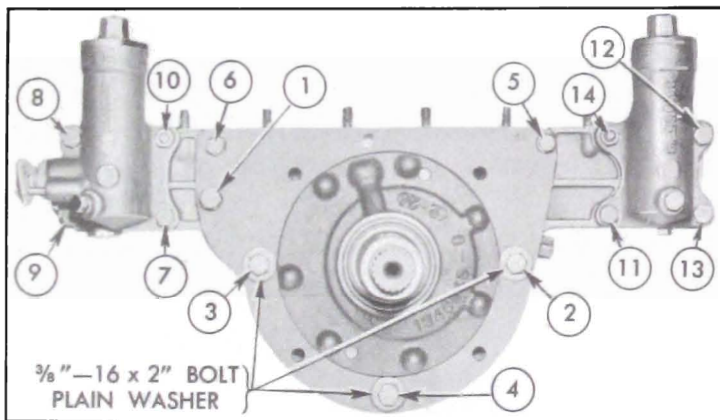

Figure 5-97—Reaction Shaft Flange and Accumulator Bolt Tightening Sequence
5. Install 3 special bolts ($\frac{3}{8}$ "-16x2") with plain washers in positions marked 2, 3, 4 in figure 5-97. These bolts are for assembly purposes only. Install regular pump cover bolts and lockwashers at positions marked 1, 5, 6. Coat threads of bolts No. 5 and 6 with Permatex No. 3.
14. Referring to figure 5-97, tighten all bolts and nuts (1 through 14) to 5 ft. lbs. torque in the numerical sequence shown. Following the same sequence again, tighten bolts 1 through 4 to 35-40 ft. lbs. and the remaining bolts and nuts to 20-25 ft. lbs.